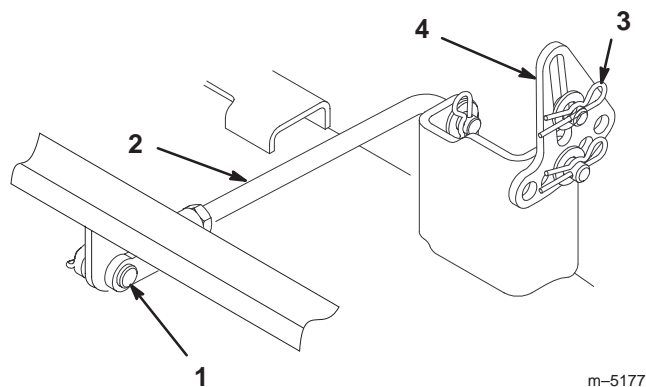

Figure 47
4. Remove the hairpin cotter and clevis pin from the rear trunion rod (Fig. 47) on each side of the mower.
5. Remove the hairpin cotter and washer at the mower leveling brackets (Fig. 47) on each side of the mower. Note which hole the leveling bracket is mounted in for future installation. Slide the brackets off of the mounting pin.
4. Attach the rear trunion rod to the tractor with the clevis pin and hairpin cotter (Fig. 47) on each side of the mower.
5. Slide the leveling brackets onto the mounting pins and secure them with the washers and hairpin cotters (Fig. 47).